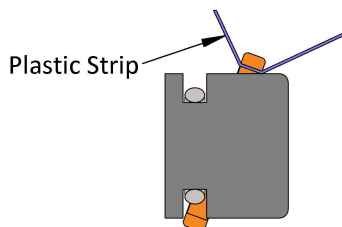

Figure 20: After o-ring is installed into seal groove, stretch the PTFE seal over the piston into the groove using a plastic strip.
- b. **Manual Method:** Common installation method for $> 4"$ diameter piston seals. Using a thin plastic strip, stretch the PTFE seal, walking the plastic strip around the ring circumference and working the seal into the groove (see Figures 20 - 22).